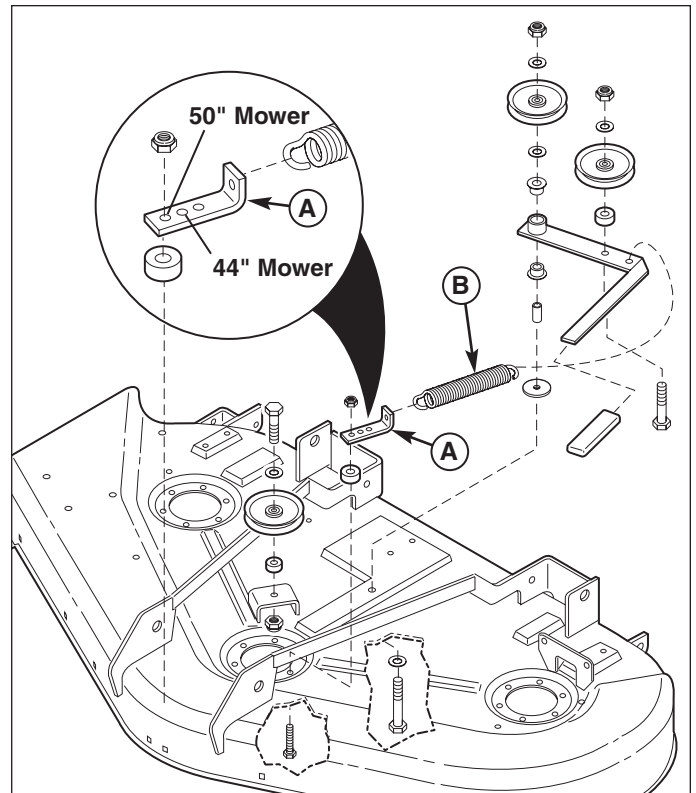

Figure 22. Mower Drive Belt Tension Adjustment
If the mower drive belt stretches over time, the idler pulley bracket can be adjusted to provide more belt tension. The initial setting of the bracket is shown in Figure 22.
2. Measure the extended length of the belt tensioning spring (B, Figure 22). The spring length (from inside end of the hook to inside end of hook) should be greater than 7" (17.8 cm). If not, adjust the bracket accordingly.